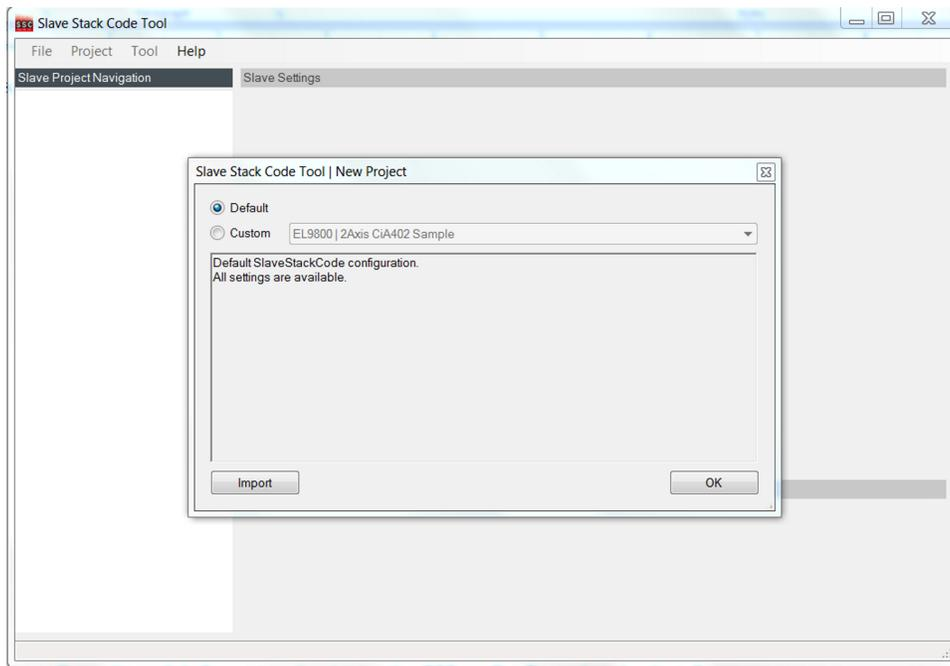

Figure 8. New Project
1. After installing the SSC tool mentioned in Section 4, open the SSC tool and create a new project. The following dialog box appears (see Figure 8).